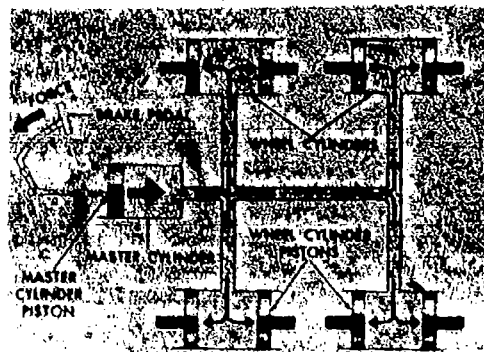
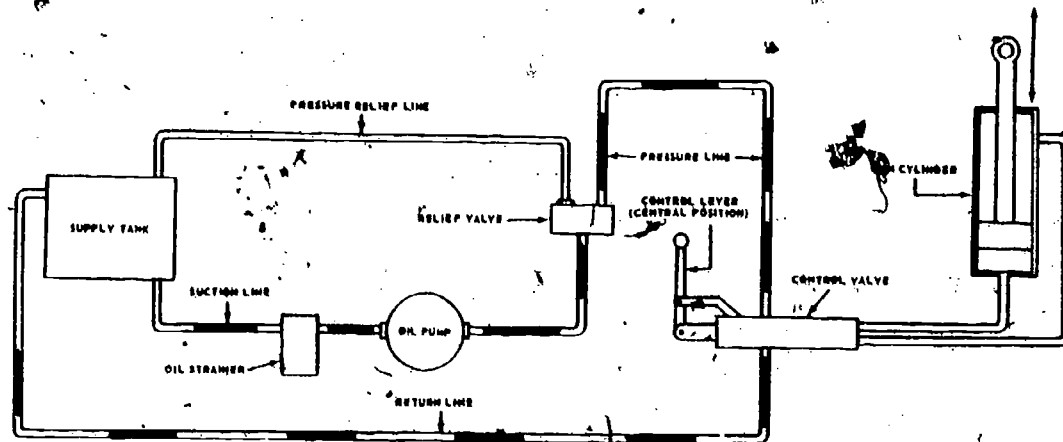

Fig 2-57. Operation of a hydraulic brake system.
Fig 2-62. Components and flow of a basic hydraulic system.
(1) Hydraulic brakes.
- (a) A hydraulic brake system is primarily a liquid connection between the brake pedal and the individual brake shoes. Principal parts of the brake system are the master cylinder and the wheel cylinders (fig 2-57). When the brake pedal is depressed, the brake fluid forces the pistons in the wheel cylinders against the brake shoes. The shoes expand against the brake drum and stop the vehicle.
b. **Components.** The number, type, and nomenclature of the components depends on the application. The components shown in figure 2-57 are used for a simple hydraulic brake system and some clutch release mechanisms. It consists of a master cylinder and one or more operating cylinders which are similar to the wheel cylinders. The 82-30M crawler-tractor uses a part of this type system to control the hydraulic steering. Another type system used on many items of engineer equipment is illustrated in simple form in figure 2-62. It consists of a supply tank, pump, strainers, filters, control valves, relief valves, lines and fittings, and one or more ram cylinders. The pump provides the amount of fluid required at the pressure needed to perform the work. The control valve and lines direct the pressurized fluid to the desired points. The ram cylinder performs the actual work of raising and lowering the blade or operating the other attachments. The relief valve protects the system from excessive pressure that the pump is capable of building up. The internal parts of a hydraulic system have a close fit and are protected from abrasives and other debris by the strainers and filters. Most hydraulic systems provide a mechanical advantage which is the reason that the operator's job is made easier.